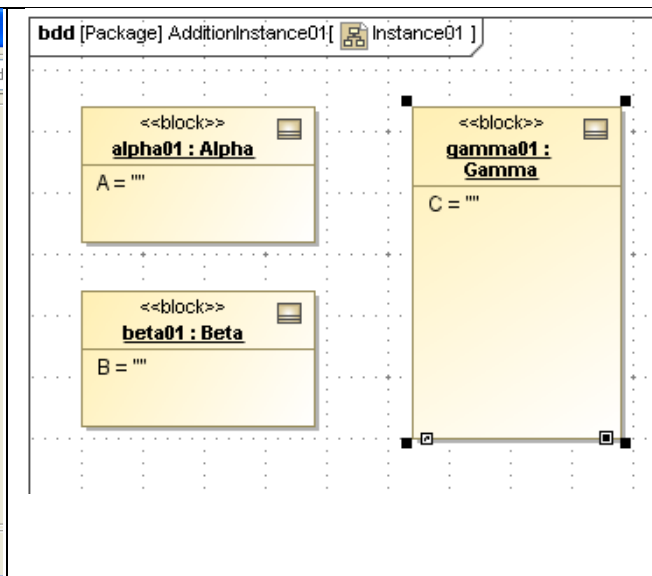

Figure 2.18 Instance diagram, preliminary
- d. Repeat process in step c for B in beta01:Beta and C in gamma01:Gamma. Instance diagram should appear similar to Figure 2.18.